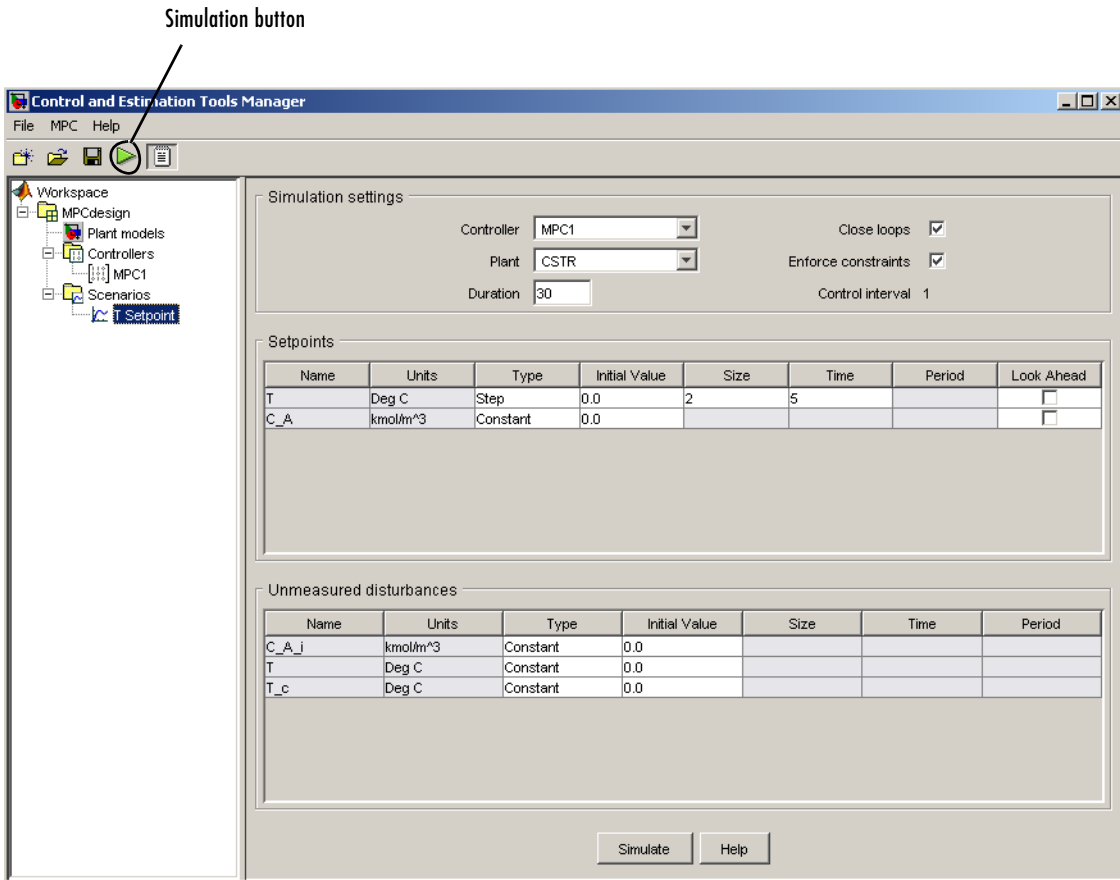

Figure 3-7: CSTR Temperature Setpoint Change Scenario
Figure 3-7 shows the result of renaming the default **Scenario1** node to **T Setpoint** and editing its default conditions. The required editing steps are as follows:
- Locate the tabular data defining the reactor temperature setpoint (first row of the upper table in Figure 3-7).
- Select the scenario you want to run, and click its **Simulate** button (see the bottom of Figure 3-7).
- Click the toolbar's **Simulation** button, which is the triangular icon shown on the top left of Figure 3-7.